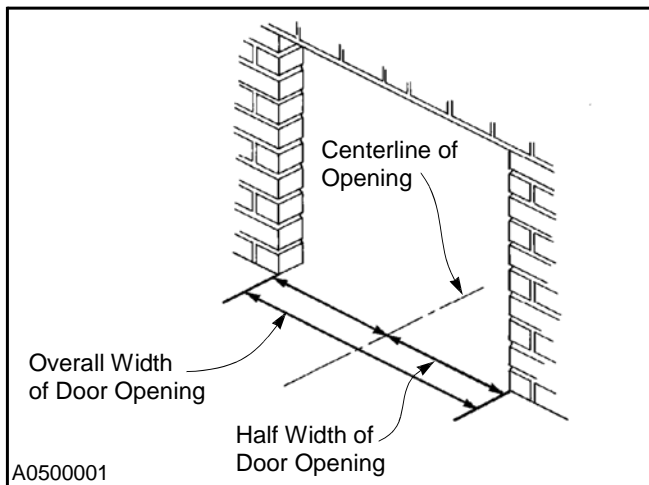

Figure 8
2. Divide the measurement in half to locate the centerline. Then mark the centerline along the floor. (See Figure 8.)